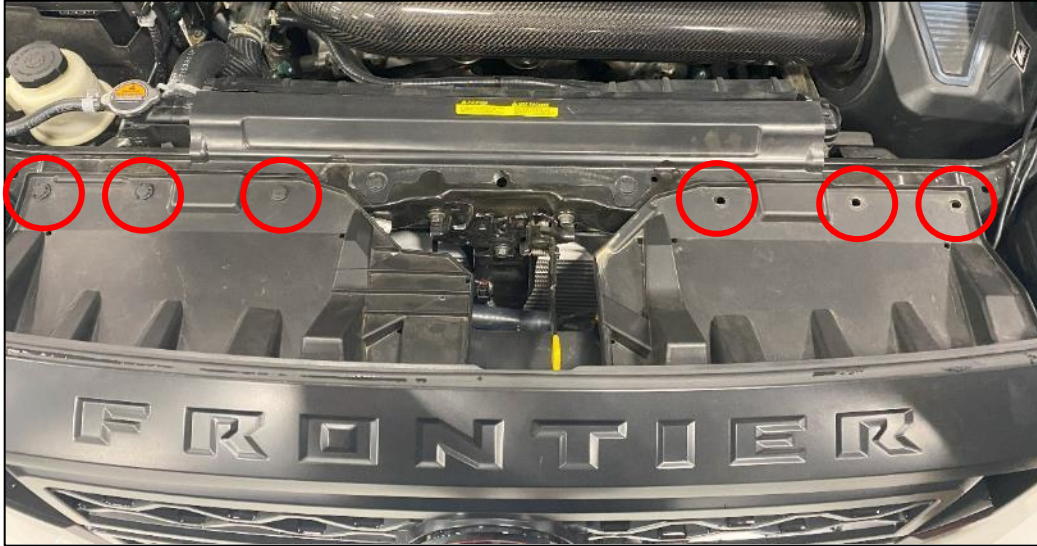

Figure 1
4. Remove the (6) six Plastic Clips securing the top of the Radiator Cover to the vehicle. *Figure 1.*